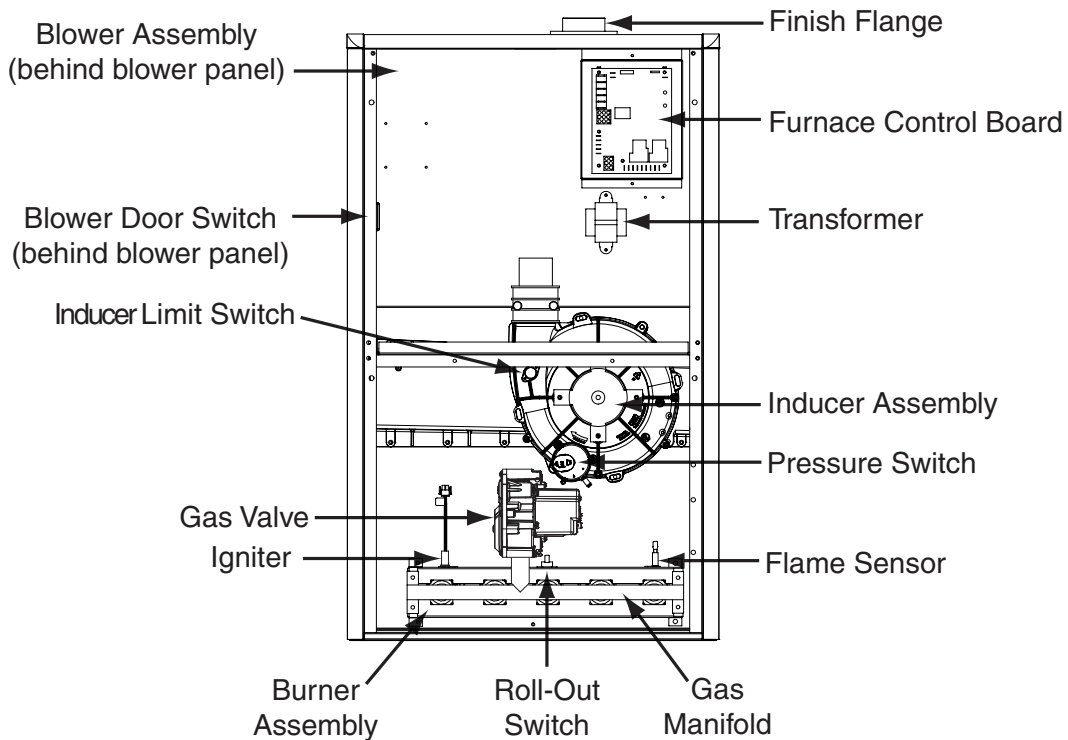

Figure 44. *SL & *SM Component Locations
- If the Inducer Blower is operating, and items above have been verified, check the Blower Limit Switch and reset if necessary. See Figure 43 (page 48) or Figure 44 (page 49) for component location.
The descriptions below are various functional components that affect the operation and shutting down of this furnace. Some of these components and their locations are shown in Figure 43 (page 48) or Figure 44 (page 49). If any component of the furnace must be replaced, use only factory authorized replacement parts specified in the Replacement Parts List provided online.